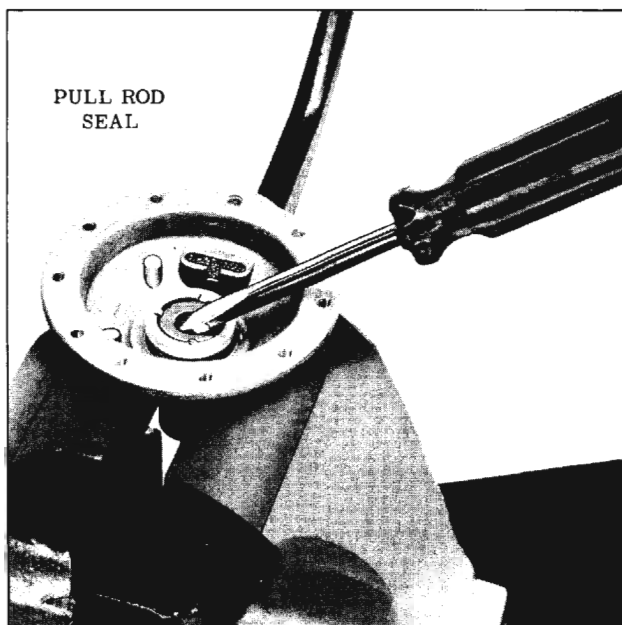

Fig. 8-61 Removing Fuel Pull Rod Seal
7. Remove pull rod seal as shown in Fig. 8-61.